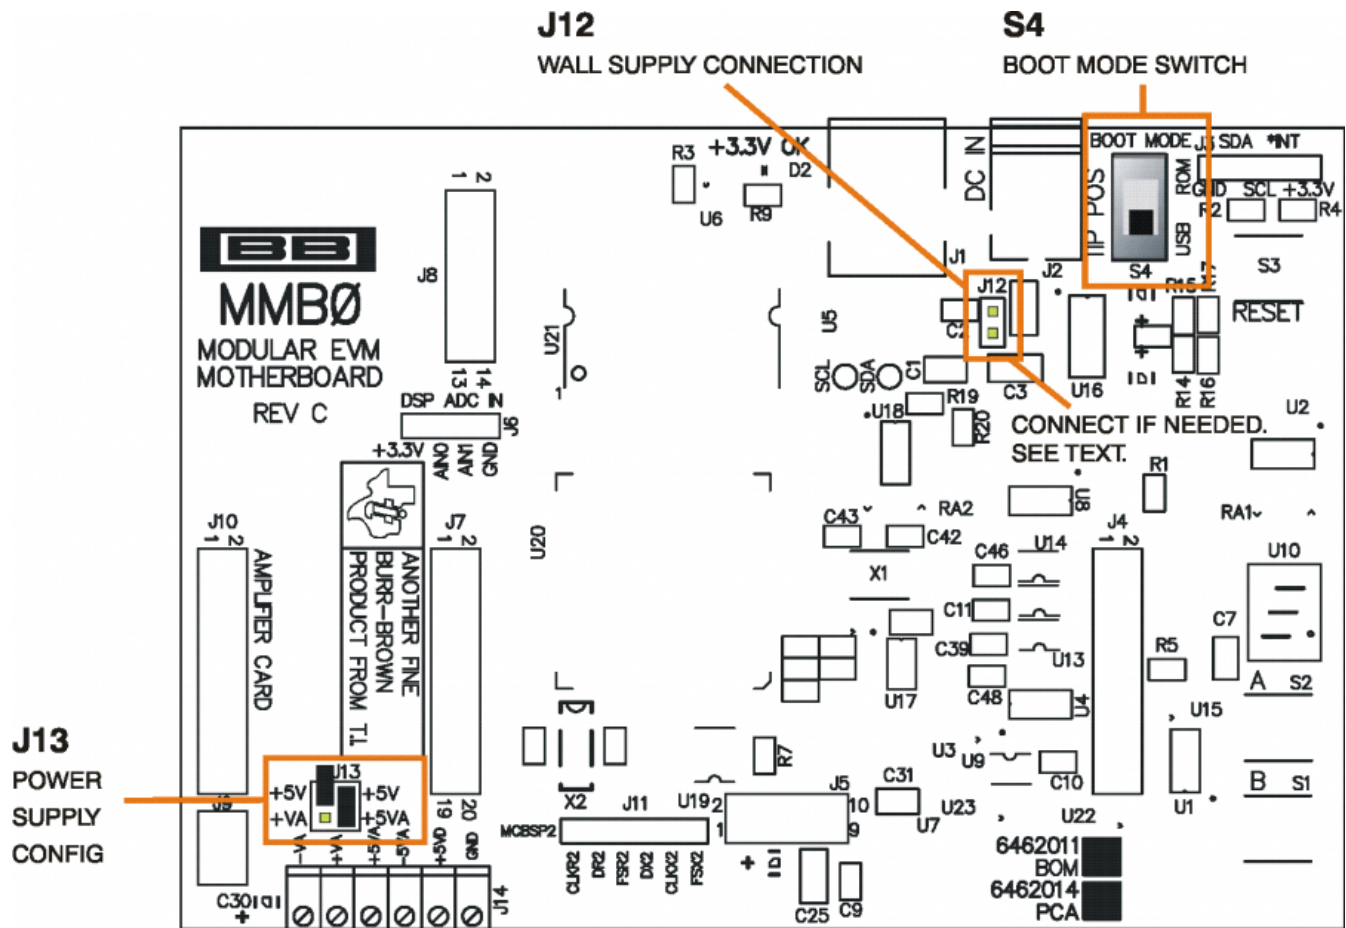

Figure 9. MMB0 Initial Setup
- Step 2. Set the jumpers and switches on the MMB0 as shown in Figure 9.